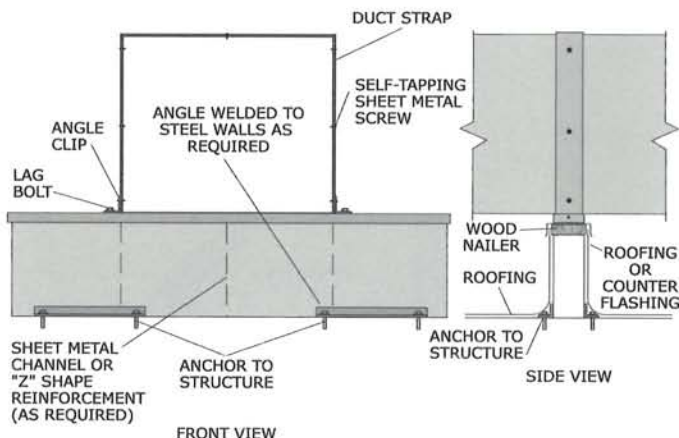

Figure 49: Duct mounted to a pre-manufactured seismic duct brace.
- Mounted to a pre-manufactured seismic duct brace (Figure 49, below).